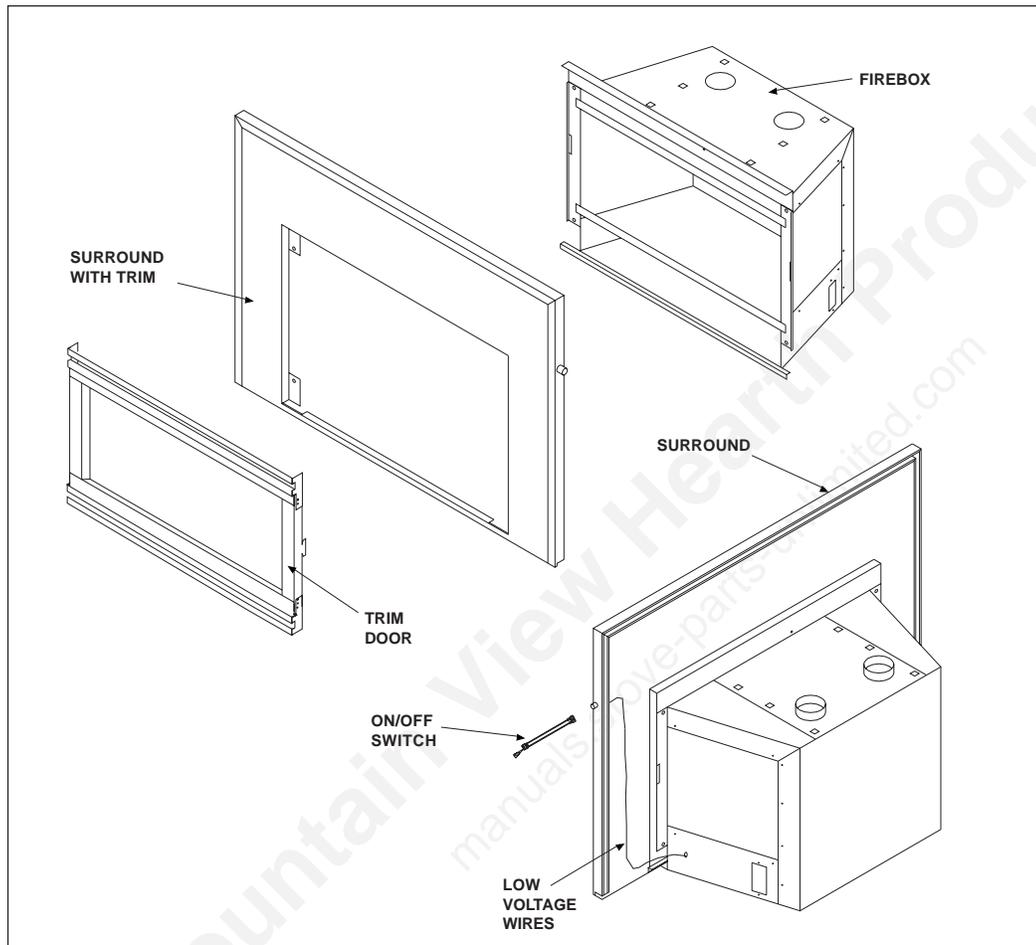

Figure 12
1. Find the coiled low voltage wires and ON/OFF switch attached to outer right side of the insert. See Figure 12.
4. Remove and retain the four surround attachment screws at the corners of the face of the unit. See Figure 12.